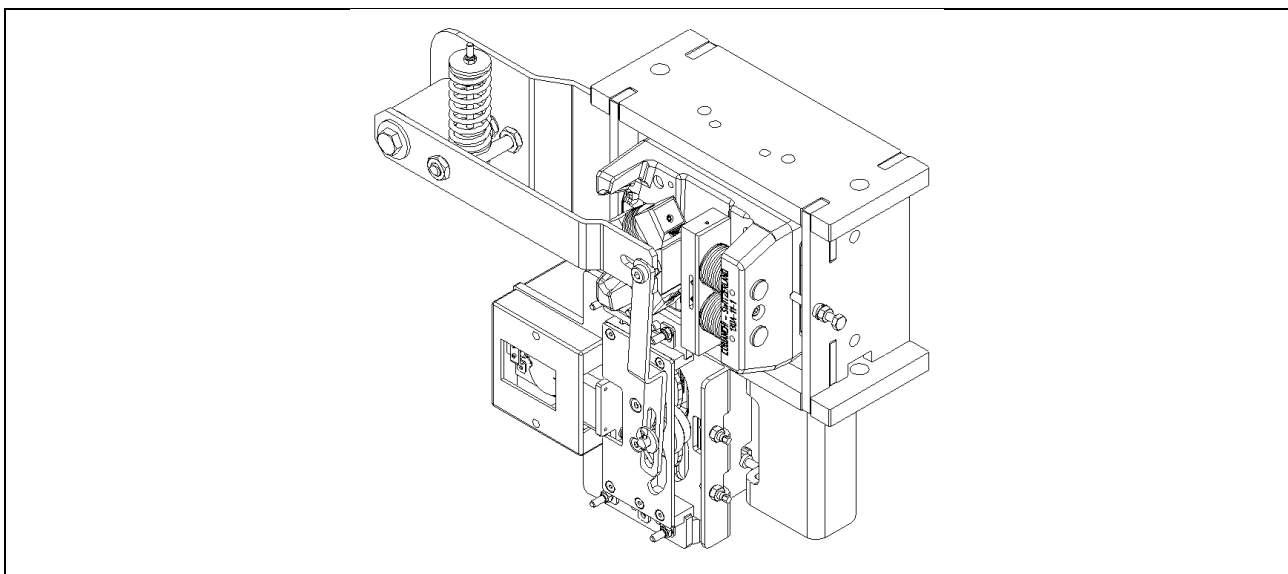

Figure 6: Attachment with external housing
The electrically-triggered safety gear can also be installed using an external housing in accordance with figure 6. The mounting plates (item 25) described above in this operating manual are part (welded in) of the external housing in this case. The centre line of the external housing must coincide with the centre of the guide rail. This ensures that the required lateral movement and deflection of the moving parts during a braking process on the electrically-triggered safety gear are not impaired.
- The safety gear heads are adapted in the catch frames using mounting plates (item 25) onto which the safety gear heads are mounted so that they can be moved sideways. Additional gusset plates (item 14 + 15 + 24) are installed accordingly. When using external housing (figure 6) for installation, the mounting plates (item 25) are integrated parts of the external housing.
The appraisal of the connection between the mounting plate (item 25) or the gusset plate (item 14 + 15 + 23) and the catch frame (crossbar, hanging angle, etc.) is the frame manufacturer's responsibility (also see section 1.9). When using external housing (figure 6), a stability appraisal must also be performed (the braking forces that are generated by the safety gear pair are specified on the type plate).
- After tightening the cylinder screws (item 24) if they have not already been fitted in the factory (tightening torque 70 Nm, secure with at least medium-strength liquid screw adhesive), you must check whether the safety gear heads (item 12) can be moved to the side and are returned to the original position via the flat spring (item 22).